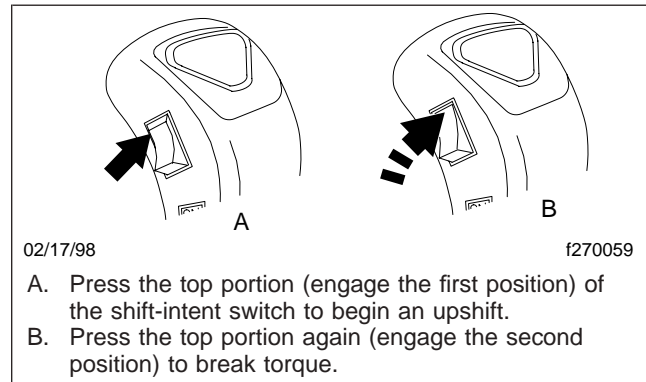
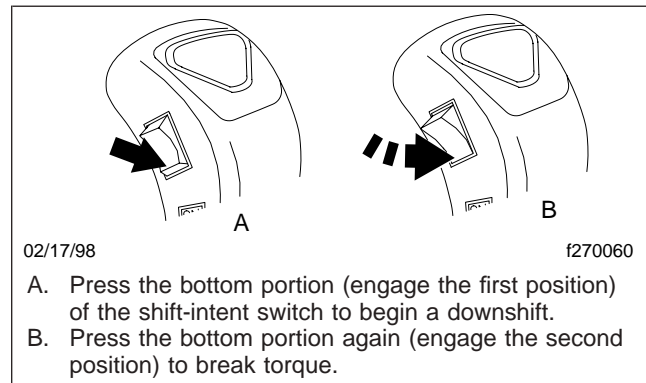

Fig. 8.20, ESS Upshifting Using the Shift-Intent Switch
Fig. 8.21, ESS Downshifting Using the Shift-Intent Switch
NOTE: If the system switch is OFF, use the shift-intent switch to select between ranges. Push the top of the switch (**Fig. 8.20**) to select the HI range on upshifts and the bottom of the switch (**Fig. 8.21**) to select the LO range on downshifts.
- 1.3 Press the top portion of the shift-intent switch again, far enough so that the switch goes into a second position inside the body of the shift handle. Then release the switch. See Fig. 8.20. This will break torque.
- 1.3 Press the bottom portion of the shift-intent switch again, far enough so that the switch goes into a second position inside the body of the shift knob. Then release the switch. See Fig. 8.21. This will break torque.